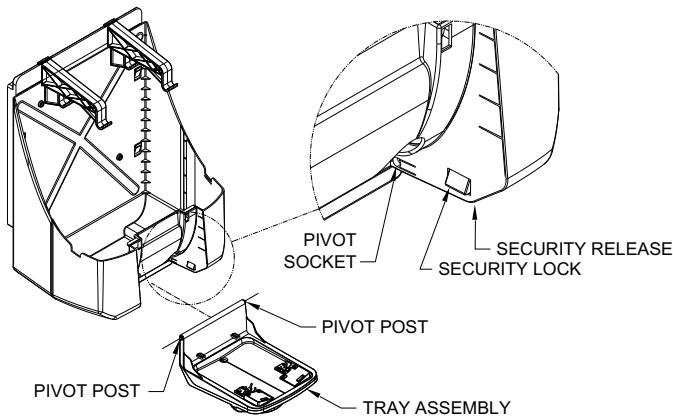

Figure 5
Step 4. Tray Assembly (Ref Figure 5)
- A. Return Lid Assembly (Ref Step 5) and Close Tray Assembly. **NOTE:** Tray cannot be closed with Security Lock engaged. To disengage Security Lock press and hold Security Release, accessible through the bottom of Housing Assembly (Ref Figure 5).